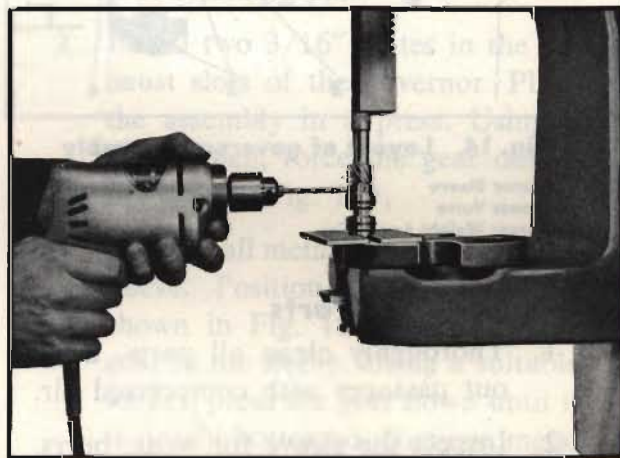

Fig. 13. Drilling new pin hole
4. To install the split pin retainer, carefully locate hole position 90° from the existing hole and prick punch. Using a #24 (.152) drill, bore a hole through the sleeve and gear (Fig. 13).